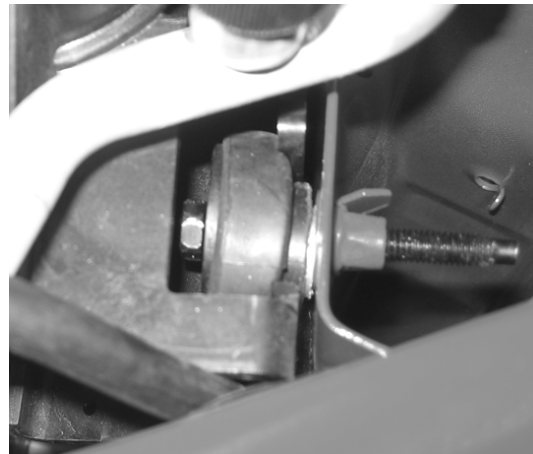

Fig. 5
9. Remove the two rubber bushings that hold the top of the radiator to the frame of the truck. Cut the bushings in half and replace as shown in Fig. 5. The radiator will shift forward as the screws are tightened.